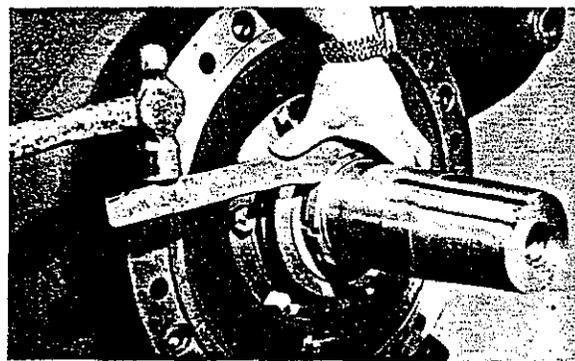
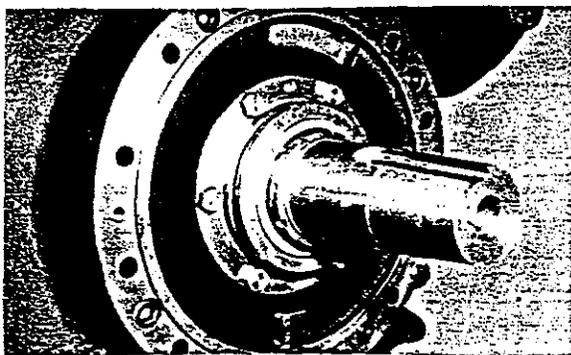

Fig. 71 Removing locknuts
Fig. 70 Shaft seal without cover plate
- a) When the shaft seal mechanism is as shown in Fig. 70, remove the locknuts (8) using extreme care to avoid scratching the moving surface of the shaft seal collar (9). (Ref. Fig. 71)